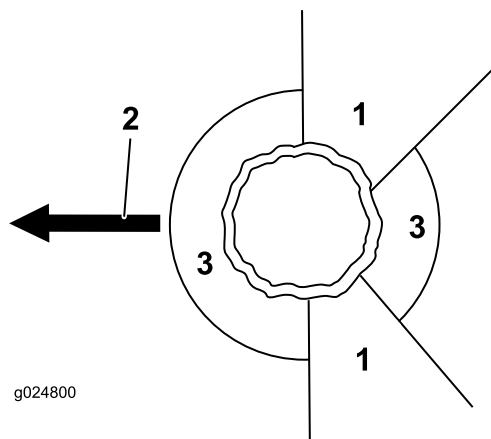

Figure 17
- Determine a clear, safe retreat path away from the danger area; refer to Figure 17.